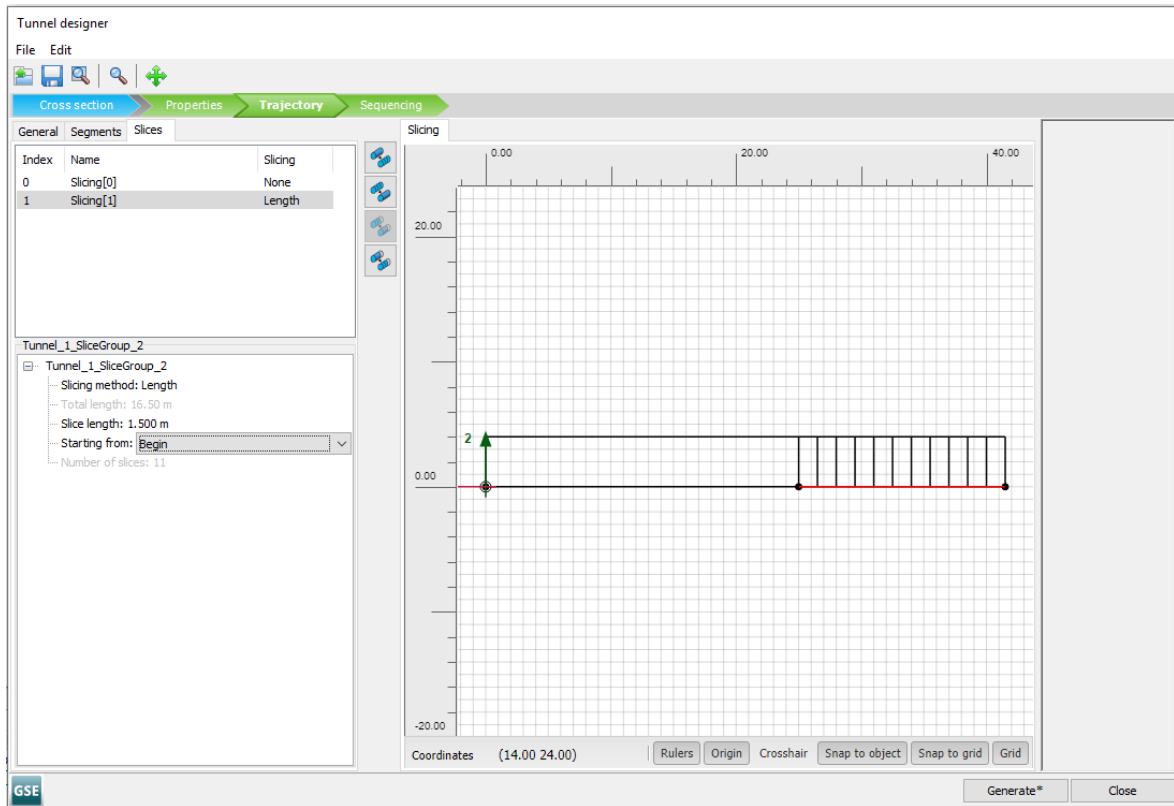

Figure 67: Trajectory tabsheet in the **Tunnel designer**
6. Click on the second created segment. In the properties box, as the **Slicing method** select *Length* and set the **Slice length** as 1.5m (Figure 67 (on page 94)).